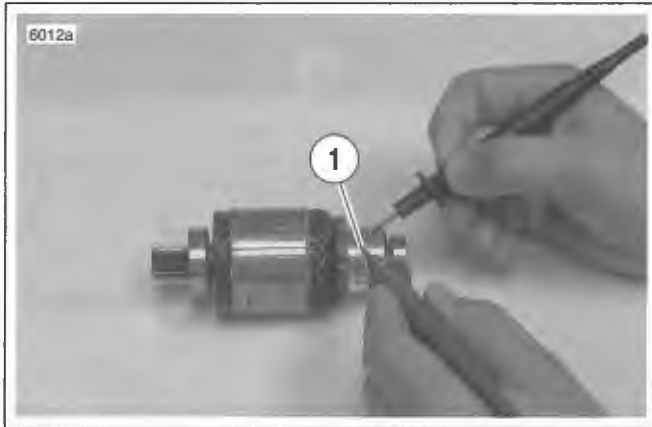

Figure 5-12. Open Armature Test
12. See Figure 5-12. Check for OPEN ARMATURE with an ohmmeter or continuity tester.
- a. Check for continuity between all commutator segments (1).